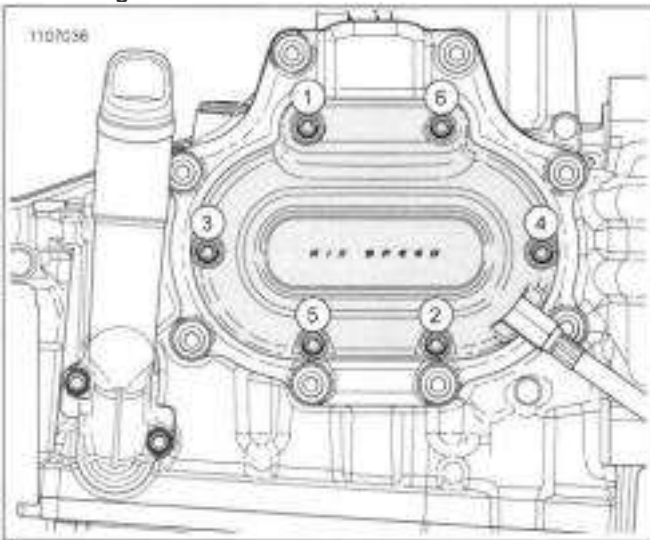

Figure 5-5. Clutch Release Cover Torque Sequence (Short Screws at Locations 1 and 6)
See Figure 5-5. Remove screws.
See Figure 5-5 . Clutch release cover screws in positions (1) and (6) are shorter than the others.